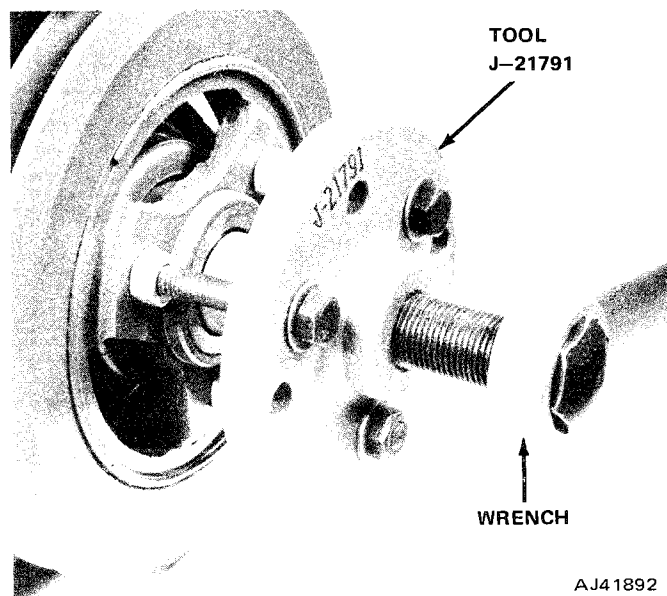

Fig. 1B-57 Vibration Damper Removal
- (1) Remove drive belt(s).
- (2) Remove three retaining capscrews and separate vibration damper pulley from vibration damper.
- (3) Remove vibration damper retaining screw and washer.
- (4) Use Vibration Damper Remover Tool J-21791 to remove damper from crankshaft (fig. 1B-57).